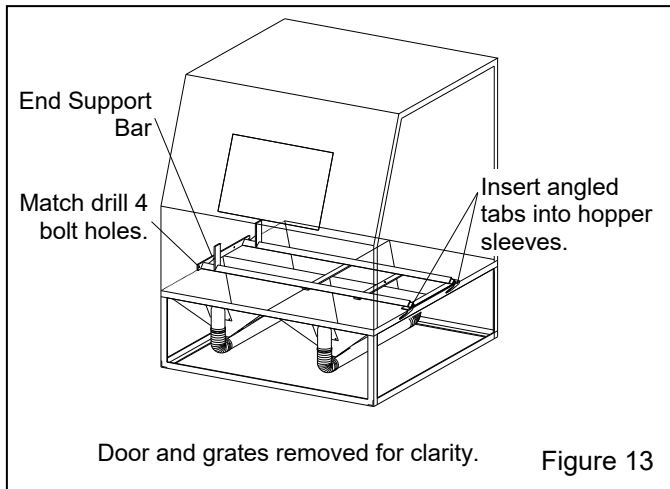

Figure 13
### 3.5.2 Install inside track – Figure 13
**3.5.2.1** Lay the inside track on the cabinet hoppers and above the grate as shown in Figure 13.